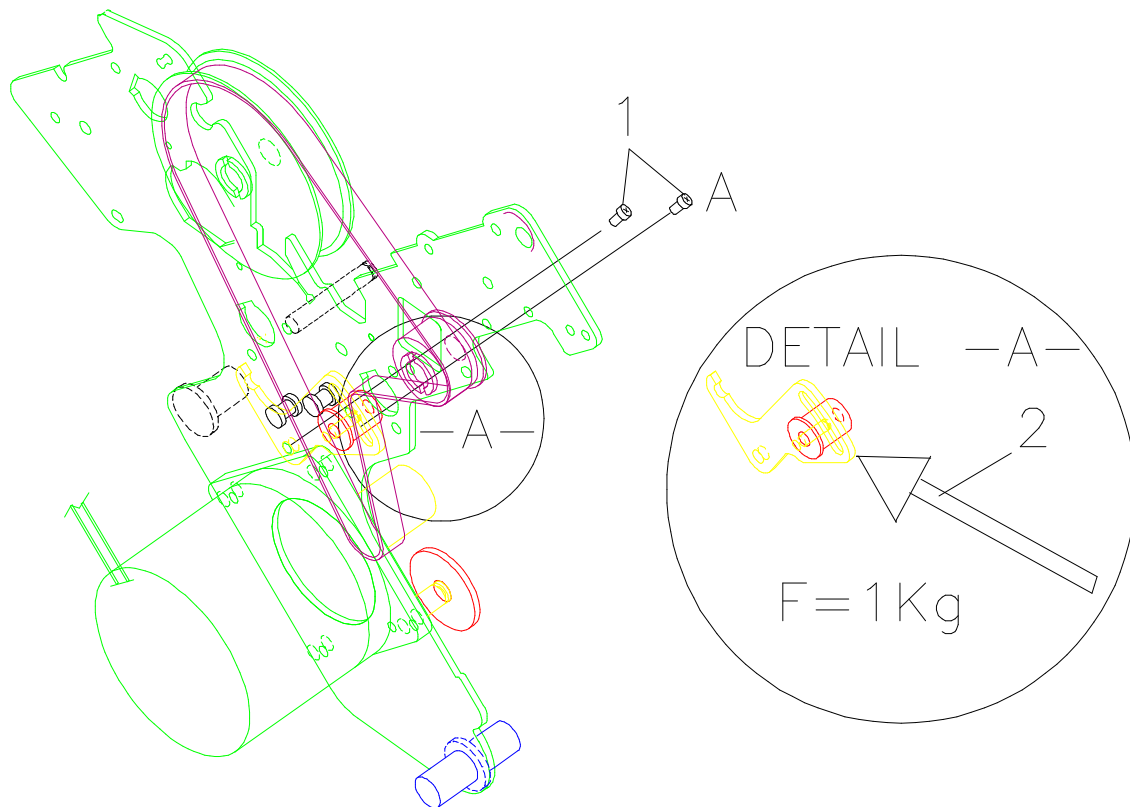

Figure 5.2 Paper Belt Adjustment
- 2) Apply the specified load on the hob of the lever with inward orientation as figure 5.2 and securing the screws to stretch the paper belt.